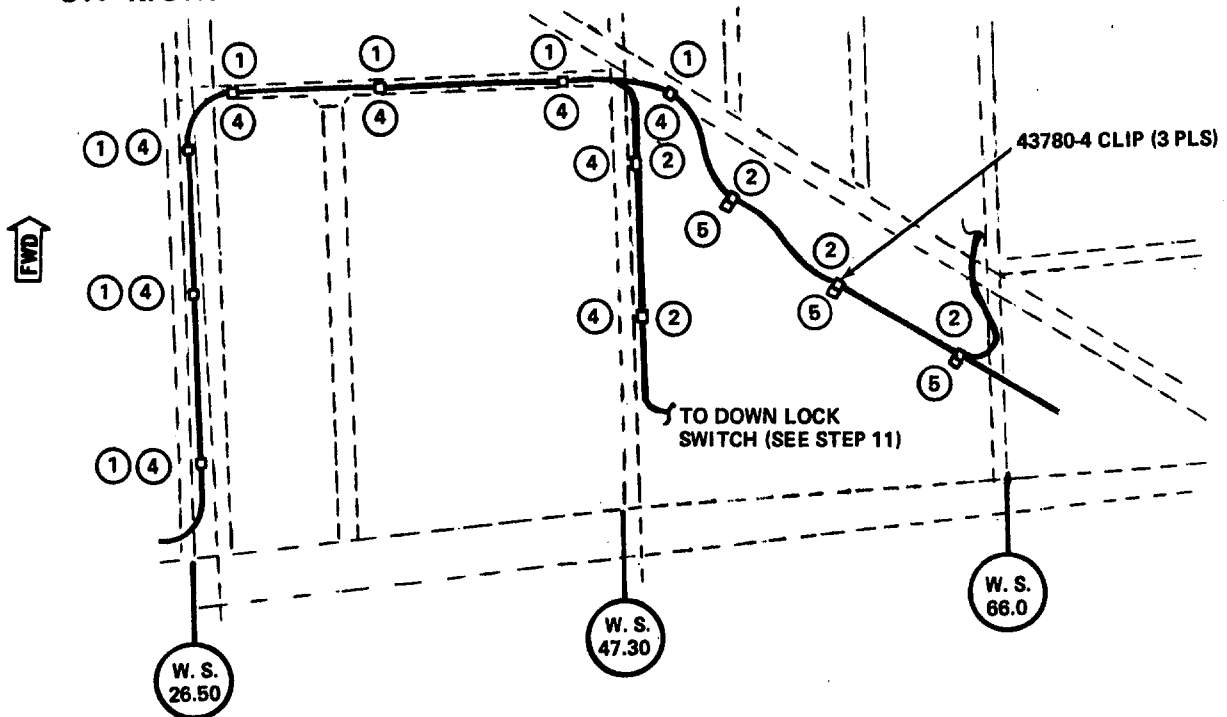

Figure 6
13. Wrap electrical cables with 500004-2 spiral wrap and secure cables using MS21919DG clamps and MS3367 tiedown straps. Tiedown straps should be spaced approximately six (6) inches apart (refer to Figure 6).